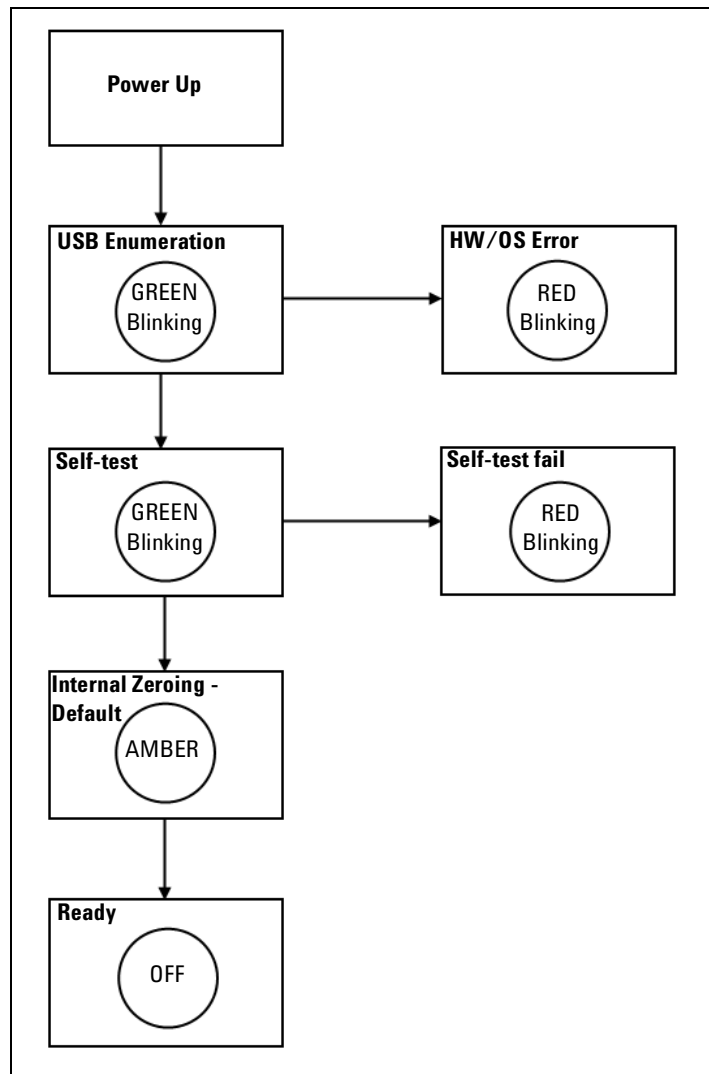

Figure 1-1 LED indicator sequence power-up
- Figure 1-1 LED indicator sequence power-up 5